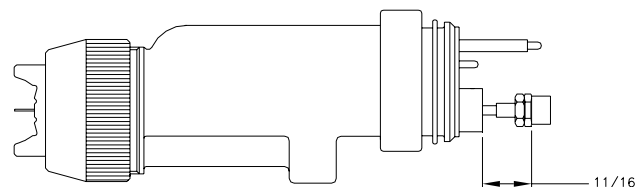

Figure 12: Trigger Adjustment Nut Dimension
18. Adjust the needle shaft spring retainer until the rear of the hexagon is 11/16-inch from the rear surface of the barrel packing chamber (refer to Figure 12).